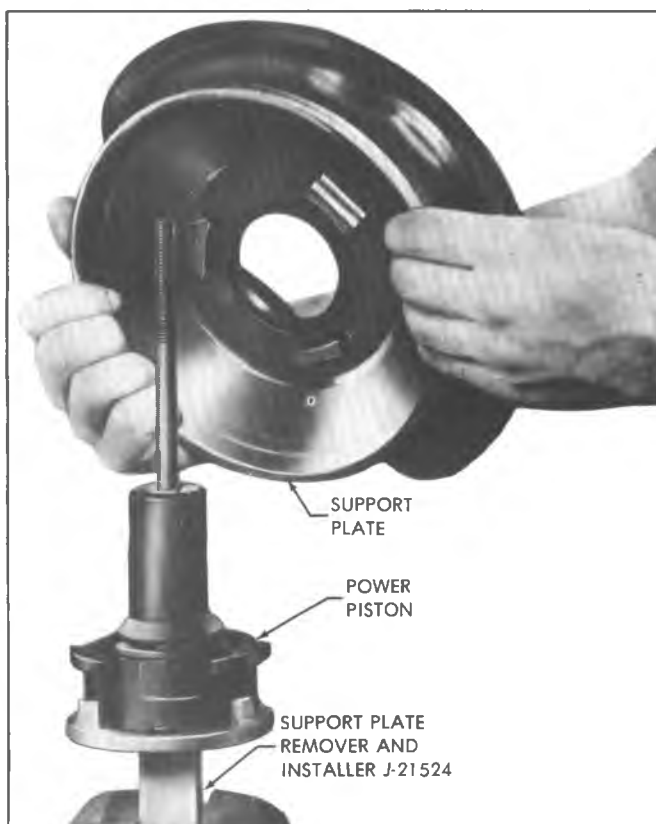

Fig. 5-12C—Installing Support Plate on Power Piston
15. Holding support plate by metal, with locking tangs down, place support plate and diaphragm assembly over tube of power piston. The flange of diaphragm will fit into groove on power piston (fig. 5-12C).
16. Press down and rotate support plate clockwise, until lugs on power piston come against stops on support plate (fig. 5-12C).